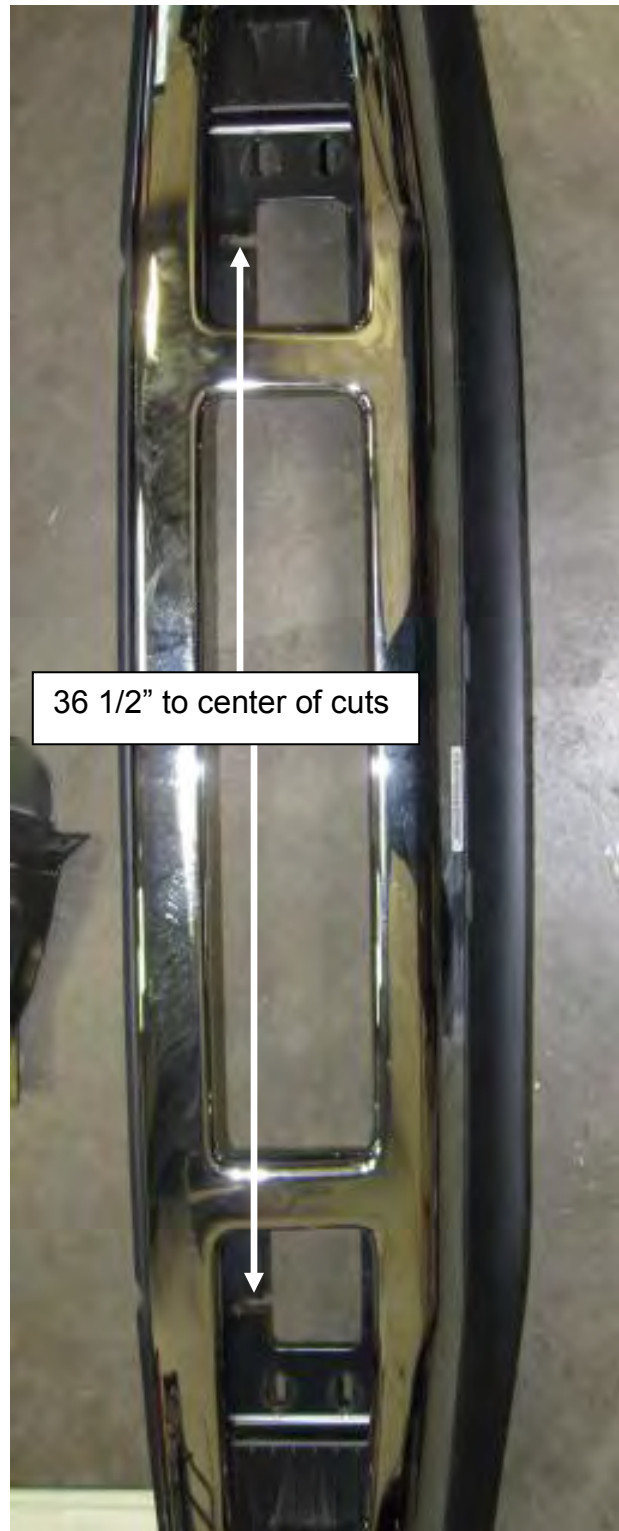

Figure 4: Cut slots in bumper brackets
4. Trim slots in the factory bumper brackets to install the front bumper. See **Figure 4 and 5**. Use a drill motor with $\frac{1}{2}$ " bit and saw or use a cutting wheel or grinder to create the slots. The center of the slots should be $36\frac{1}{2}$ " apart.